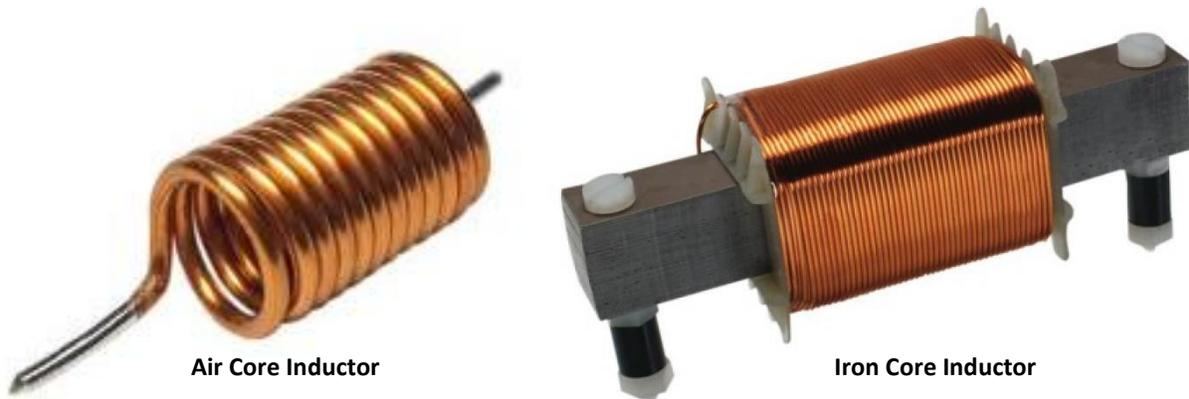

Figure 6.14: Inductors
- 6-87 An inductor is made by winding wire around a "core." The core may be made of either a *magnetic* material or a *nonmagnetic* material. Most conductors have cores of iron, but some have an "air core." The wire in an air core inductor is wound around a tube of paper or plastic. Figure 6.14 shows both kinds of inductors and their symbols.